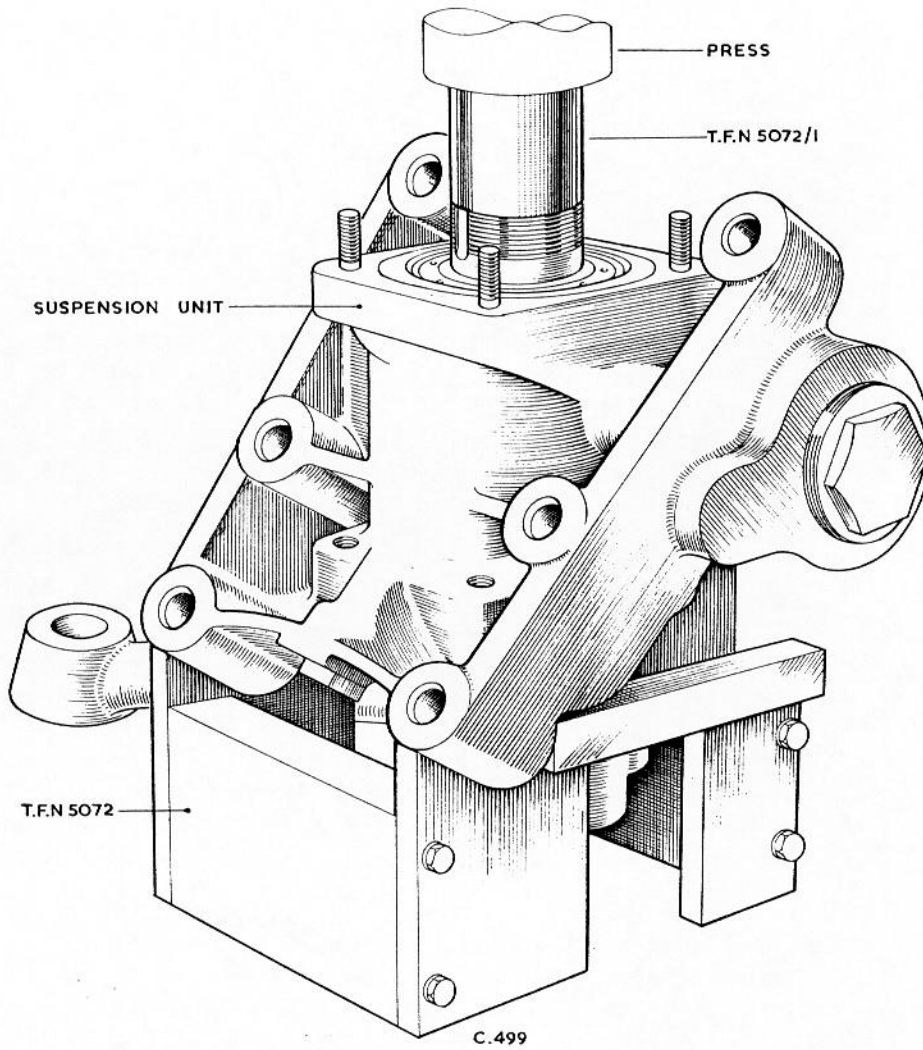

Fig.29 Removing mainshaft and arm complete.
Remove the filler plug and drain the oil from the casing. Loosen the set-screws holding the applicable side plate of the carrier TFN.5069, then mount the unit in the carrier as shown in Fig.29 then tighten the set-screws and proceed as follows :-
3. Referring to Fig. 29, position the pilot end of the ejector tool TFN.5069/1 in the bore of the mainshaft and carefully press the shaft clear of the ball bearing in the forward end of the casing, at the same time easing the rear cover plate from the casing. This will displace the oil seal spacer with the small oil seal ring, and the mainshaft, distance piece, inner race of the needle roller bearing and rear cover plate assembly and gasket.